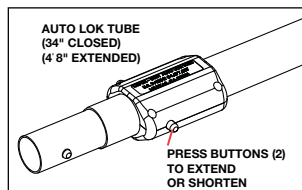

Figure 7
A. The Auto-Lok Tube allows small adjustments to the length of the tubes quickly and easily. Simply push back on tubes to extend. Press in on the two buttons and pull back on the tubes to shorten. (See figure 7.)